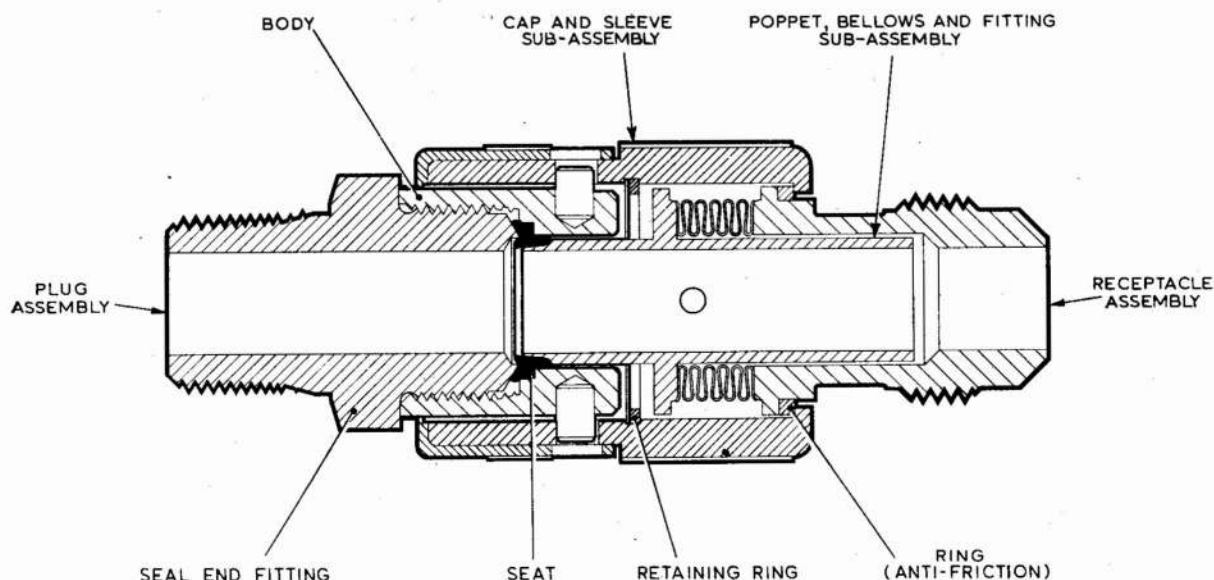

Fig. 2. Sectional view
2. The unit (fig. 2) comprises a receptacle assembly (Part No. 256000-1) and a plug assembly (Part No. 256000-2) which, when engaged and installed in a liquid oxygen supply line, form a leak proof connection.